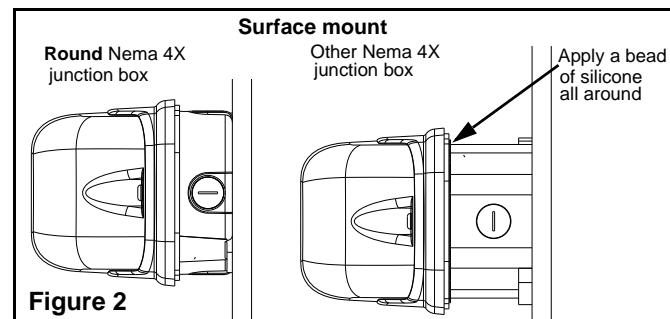

Figure 2
6. Fasten the back plate with 4 screws to a **round** surface mounted Nema 4X rated junction box or directly to a recessed junction box making sure the unit is properly sealed all around (gasket will not guarantee an adequate seal on all surfaces). Failure to use a **round** junction box will require additional means to seal around the junction box (see figure 2).